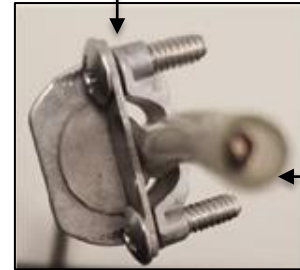

FIG. 11 – STRAIN RELIEF WITH CORD INSERTED
6. Insert cord through the strain relief and tighten two screws on the strain relief above hanging bracket where marked. If screws are not properly tightened cord could slip through the strain relief, causing the fixture to fall as shown in FIG. 11.